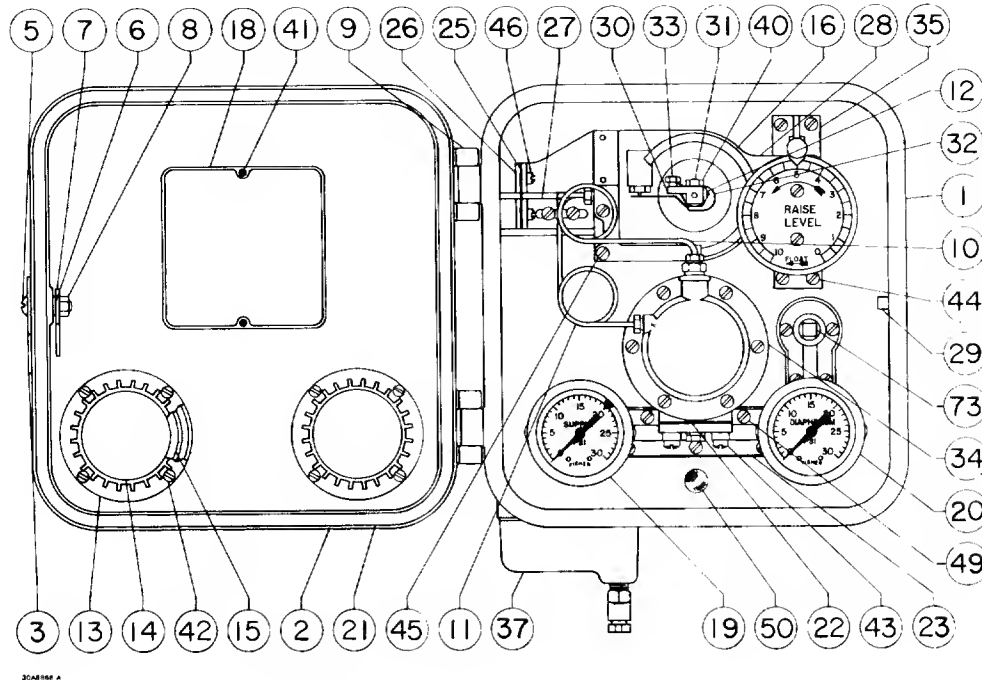

Figure 18. Type 2503R Controller Construction
2. Disconnect the tubing (key 11, figure 17, or keys 10 and 11, figure 18) from the relay.